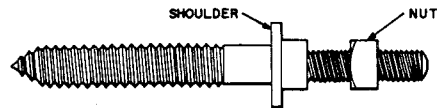
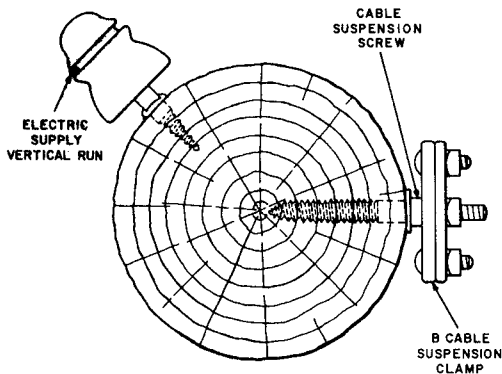

Fig. 3—Cable Suspension Screw
Fig. 4—Installed Cable Suspension Screw
4.01 The cable suspension screw (Fig. 3) is for use in attaching a B cable suspension clamp to a jointly used pole where the use of a cable suspension bolt would result in improper clearance from an electric supply vertical run or bracket and where it is impractical to have the supply attachment moved to provide clearance for the bolt. The installation of a cable suspension screw is illustrated in Fig. 4.